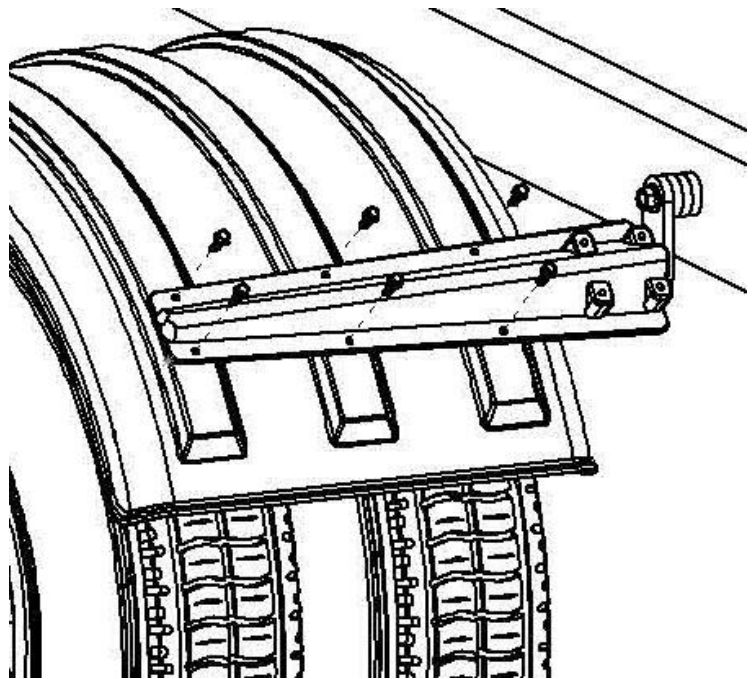

Figure 14
- Make sure the fenders are square and aligned (Figure 14). Twists or bows in the fender will fatigue the material over time.